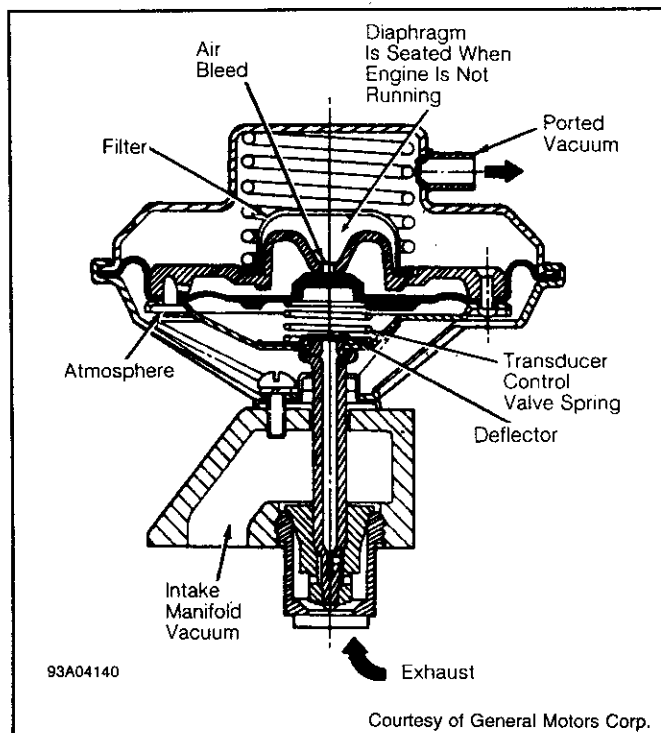

Fig. 14: Typical Negative Backpressure EGR Valve
**Negative Backpressure EGR (BP/EGR) Valve** – This type has the same function as the positive BP/EGR valve except valve is designed to open with a negative exhaust backpressure. The control valve spring in transducer is placed on bottom side of diaphragm. See Fig. 14.
When ported vacuum is applied to main vacuum chamber, partially opening valve, vacuum signal from manifold side (reduced by exhaust backpressure) is transmitted to the hollow stem of valve. See Fig. 14. This enables signal to act on diaphragm, providing a specific flow. Thus, EGR flow is a constant percentage of engine airflow.